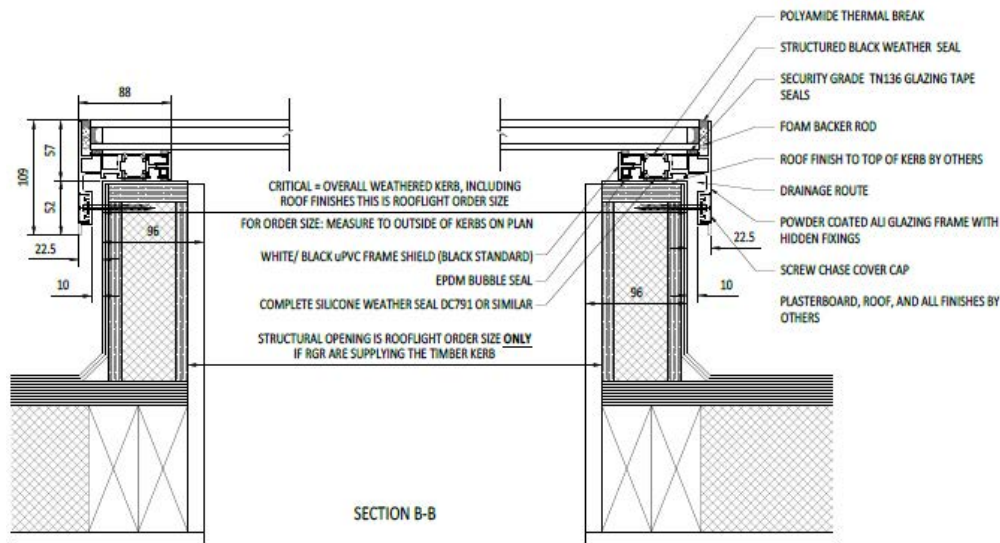

Fig 1 – Long Section Through Kerb
- ▶ 1 Check the size of the rooflight and the size of the external kerb to make sure that the rooflight will fit over the kerb. The rooflight should be bigger than the kerb. The rooflight must not be forced down over the kerb, as this will cause the frame to twist which may adversely affect the glass. There should be at least 10mm between inside face of frame and finished kerb. This 10mm is also required for adequate drainage. See *Figure 1*.